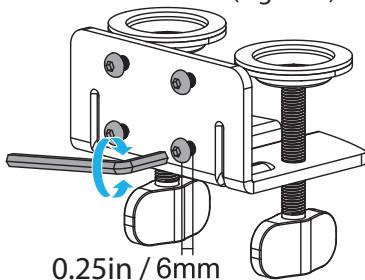

Figure 5
3. Using the **4mm Hex Key**, loosen the **Screws** (x 4) on the back of the **Lower Desk Clamp** until there's **1/4 inch** (6mm) gap. Do not remove the **Screws**. (Figure 5)